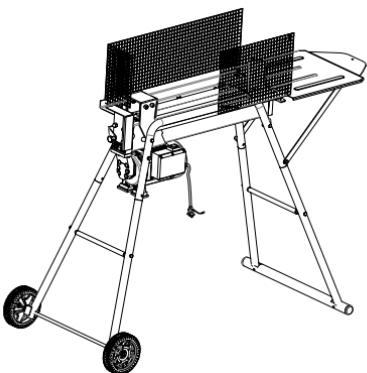

Figure 1
The figure 1 shows the maximum log sizes that can be split.
The diameter of the log is indicative: a small log can be difficult to split if it has knots or a particularly tough fiber. On the other hand, if the wood has regular fibers, it is not difficult to split logs with diameter greater than the maximum shown in fig. 1.
Step 3: Make the three inner hexagon bolts M8×16(7) and three M8 gaskets, successively through the installation hole of the right cover (11), use the hexagon wrench and the screw hole on the right leg for connection and fixation
Step 4: Step 5: Make the two inner hexagon bolts M8×16(8) successively through the installation hole of right and left cover (10,11) and the stock support plate (1), at the same time, use the hexagonal wrench and the general wrench to tighten the two M8 nuts and bolts.
Step 5: Make the two inner hexagon bolts M8×16 (8) successively through the installation hole of the supporting plate and the stock support plate (1), at the same time use the hexagonal wrench and general wrench to tighten the two M8 nuts and bolts.
Step 6: Secure the left guard and right guard with the corresponding holes of the left and right support plates using the buckle combination (5) respectively, and tighten them with a wrench (see Figure 1).